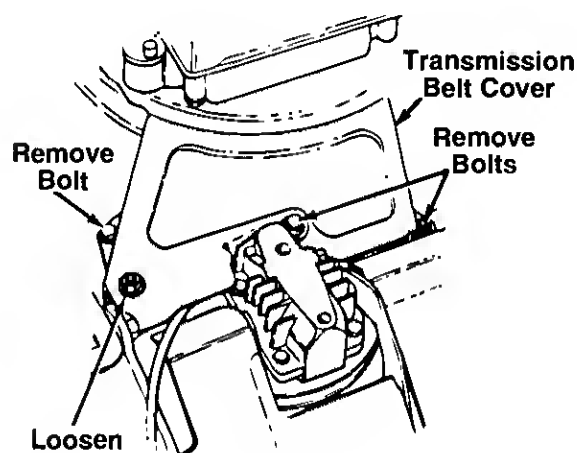

FIGURE 14.
4. Remove the transmission belt cover by removing three bolts. See figure 14.